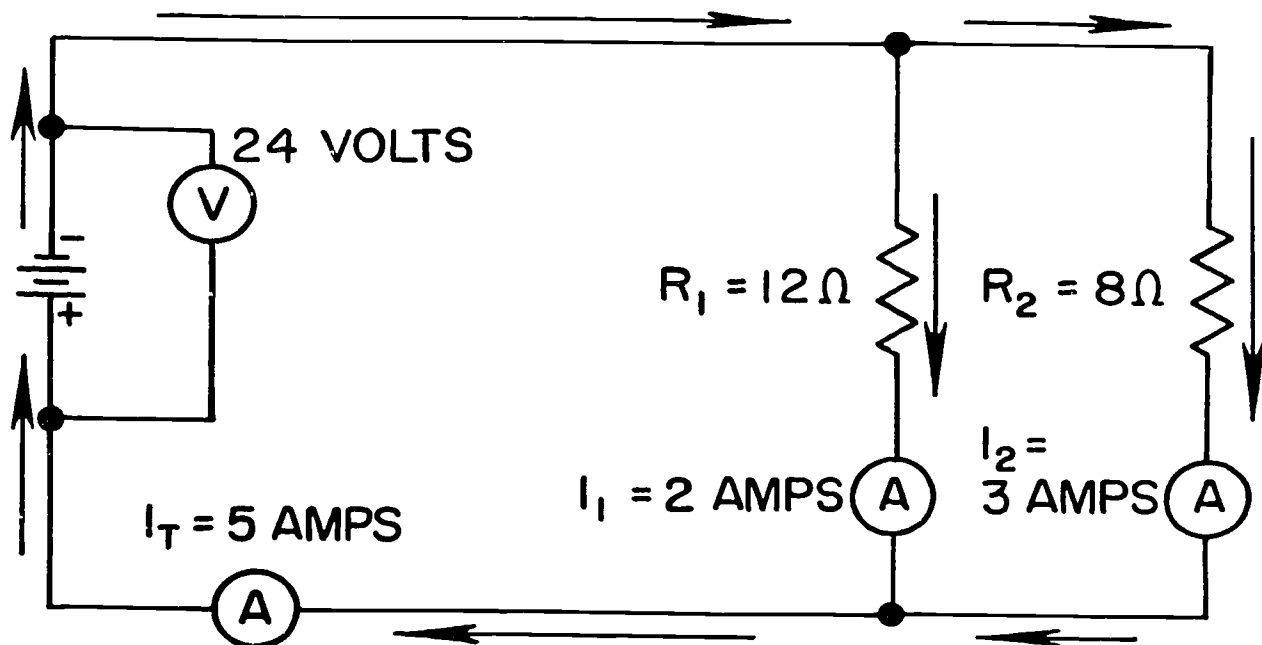

Figure 4-6. Sample electrical circuit.
What are some of the rules that you learned about parallel devices in electrical circuits? The voltage across each device is the same and the current from the power source splits through the branches. This current is determined by the branch resistance and the total voltage. Furthermore, the total resistance in a parallel circuit is less than the smallest branch resistance. Figure 4-6 will help us review these rules. For instance, the 12-ohm resistor has only 2 amperes of current, whereas the smaller (8 ohms) resistor has 3 amperes.
3. What voltage should be registered by the voltmeter of the circuit in figure 4-6?